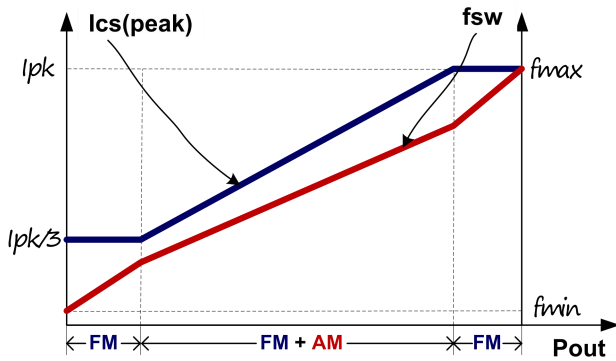

Fig.4
To meet the tight requirement of averaged system efficiency and no load power consumption, a hybrid of frequency modulation (FM) and amplitude modulation (AM) is adopted in DP2525G which is shown in the Fig 4.